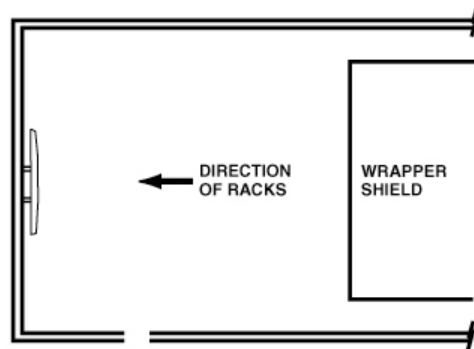

Figure 2.2.7b
4. Mark the end of the table, where the holes need to be drilled (Figure 2.2.7b).